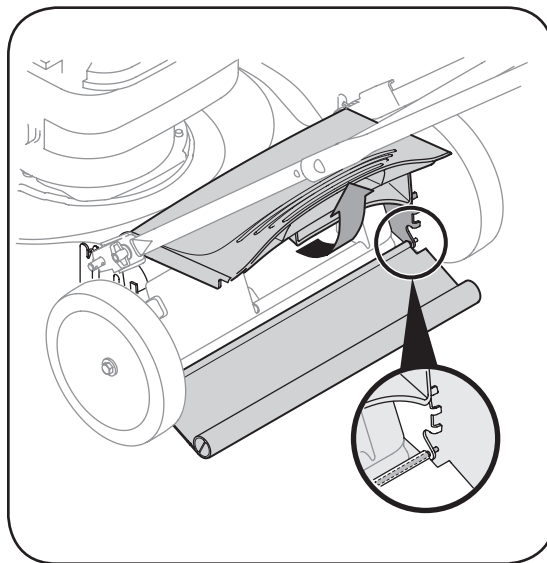

Figure 5-3: Removing the rear flap.
1. To remove rear flap, lift rear door, and press flap in on either side to remove from hole. See Figure 5-3.